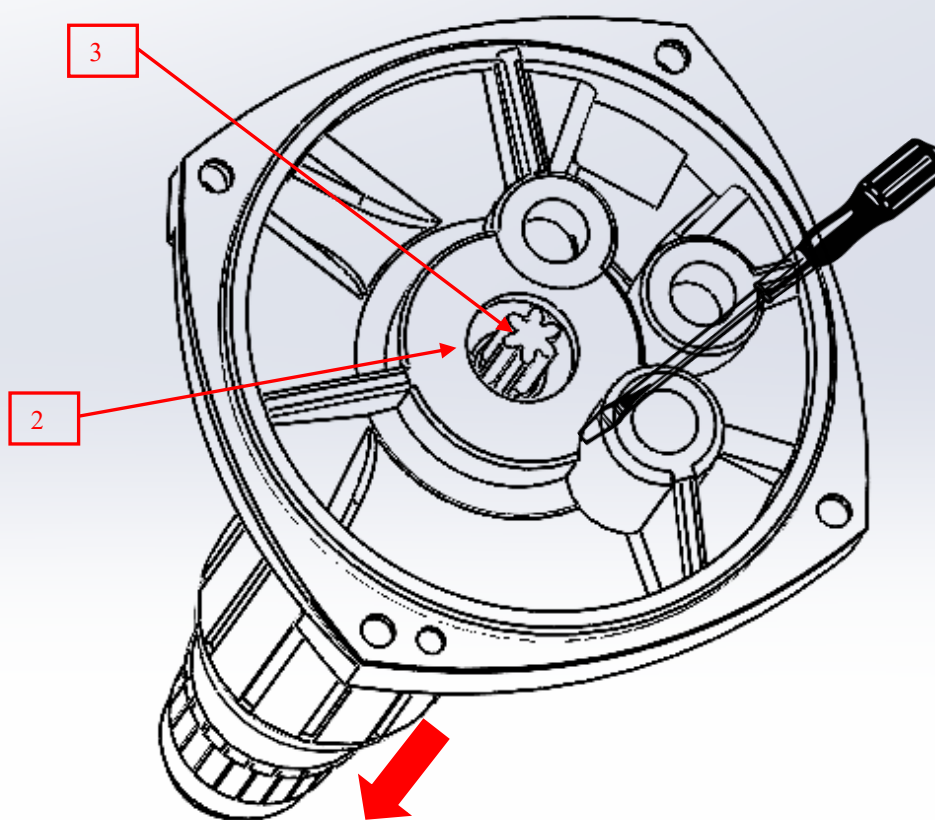

Figure 1.14
- 1.5.6 Remove the seeger ring as in figure 1.14 – position 2;
- 1.5.7 Gently tap on position 3 (figure 1.14) and proceed with the removal of the armature by pulling in the direction of the arrow.